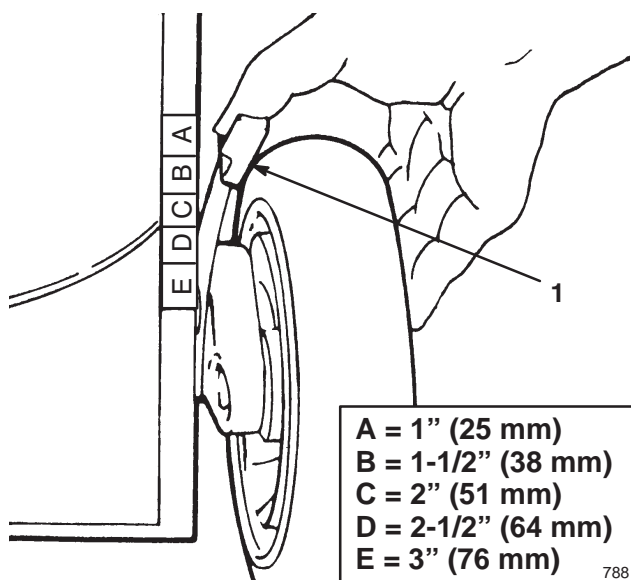

Figure 15
3. Set all four wheels in to the *E* cutting setting (Fig. 15).
You can adjust the cutting height to five settings (Fig. 15). for normal cutting, set all four wheels at the same cutting height.
4. Squeeze the height-of-cut lever toward the wheel and move it to the desired setting (Fig. 15). Make sure that the pin on the height-of-cut lever engages the hole in the bracket.